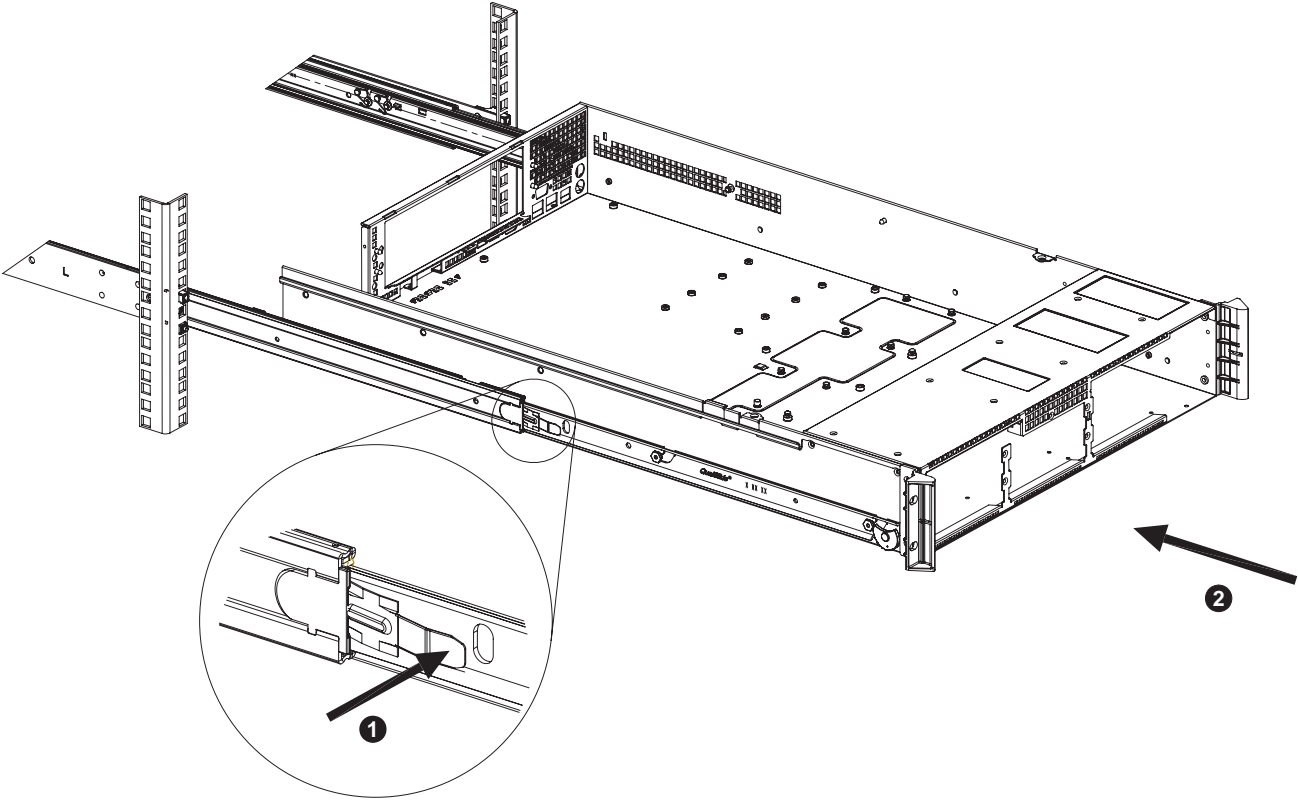

Figure C-4 Rail Slide Release Tab
4. Push the release tab and push the chassis into the rack as shown in Figure C-4.